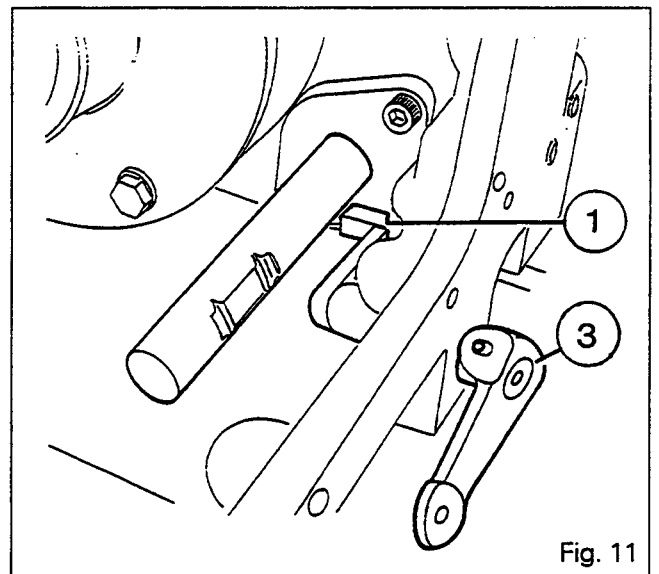

Fig. 11
21. Refit the rod (3) (Fig. 11).
**Note: Make sure that the finger (1) of the creeper gear control rod is pointing towards the front of the tractor (Fig. 11).**